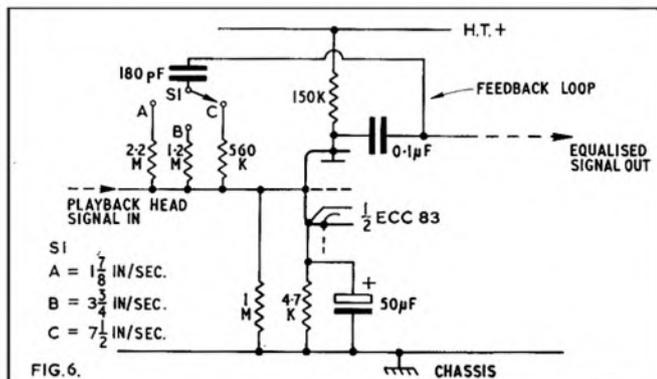

FIG. 6.
A representative circuit of this kind is shown in fig. 6. Here a triode valve is used and this may pick up signal either direct from the playback head or from the output of a pentode amplifier which itself is connected to the head.
By arranging suitable values for the capacitor (C) and the resistor (R), equalisation to match any tape speed is possible. It is not necessary to alter both C and R. In practice one of the other is switched. In the circuit of fig. 6 it is the R element which is switched.
Note that the time-constant in the circuit of fig. 6 is derived by multiplying the selected feedback resistor in *megohms* by the series capacitor in *pF*. The time-constant is then given in μS . For example, at $1\frac{7}{8}$ i/s the time-constant is 2.2 times 180. This works out to a little under 400 μS , corresponding to a turnover frequency of 0.4 Kc/s or 400 c/s.